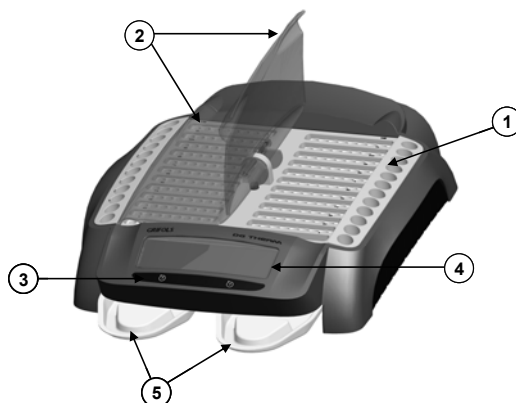
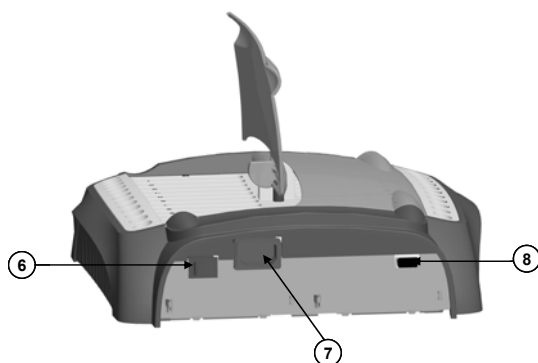

Figure 1 : General view of the *DG Therm* incubator
Figure 2 : Rear view of the *DG Therm* incubator
(3) Biological risk label
Located on the flap of *DG Therm* Trays (Ref. (5), Figure 1) it indicates and warns of the biohazard caused by possible remaining substances on the surfaces of the incubator and especially on the Trays.
Figure 1 and Figure 2 show a front and rear image of the *DG Therm* incubator.
The Thermostated block (Ref. (1), Figure 1) is the area of the incubator designed to place *DG Gel* cards and sample tubes for their thermostatisation at 37°C for the pre-established time.
The *DG Therm* incubator has two coverings that fold laterally (Ref. (2), Figure 1), which enable regulation of temperature and protect the *DG Gel* cards during incubation. Furthermore, their design facilitates the introduction and extraction
The *DG Therm* incubator has two Start/stop buttons (Ref. (3), Figure 1), **P₁** (Ref (1), Figure 4) and **P₂** (Ref. (2), Figure 4), that allow to start/stop both incubator timers independently.
- (1) **P₁**: Start/stop timer button **1**
- (2) **P₂**: Start/stop timer button **2**
The Display (Ref (4), Figure 1) informs the OPERATOR of the remaining time to the end of incubations (controlled by Timer **1** and **2**) and the temperature of the Thermostated block. It also informs of possible error situations.
DG Therm Trays (Ref. (5), Figure 1) are extractable and disposable trays located in the lower part of the incubator used to collect any remain of sample or any other substance from accidental spillage during the use of the equipment.
- Do not position the equipment so that it is difficult to operate the Main switch. (Ref. (6), Figure 2).
- Connect the mains cord to the incubator (Ref. (7), Figure 2) and the mains.
- Switch on the Main switch (Ref. (6), Figure 2).
- With the equipment switched off, keep the button **P** pressed down and switch on the Main switch (Ref. (6), Figure 2).